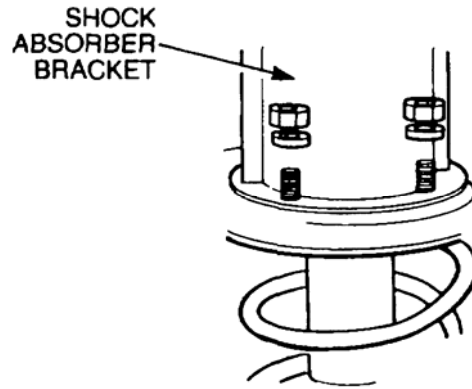

Figure 124 Front Shock Absorber Bracket Removal
- g. Remove the nuts and lock-washers, securing the shock absorber bracket to the chassis rail (Figure 124). Discard the lock-washers.